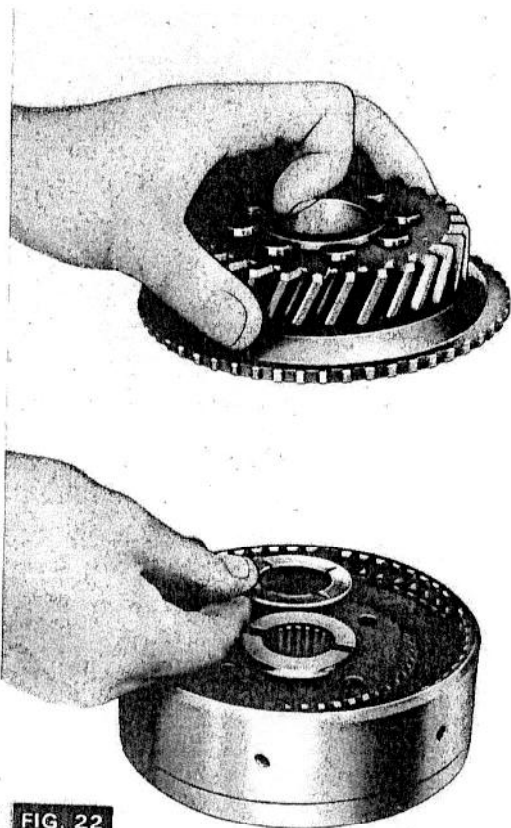

FIG. 22
7. (Fig. 22) Place the thrust washer onto the hub and fit the reverse clutch cover and gear assembly into the drum.